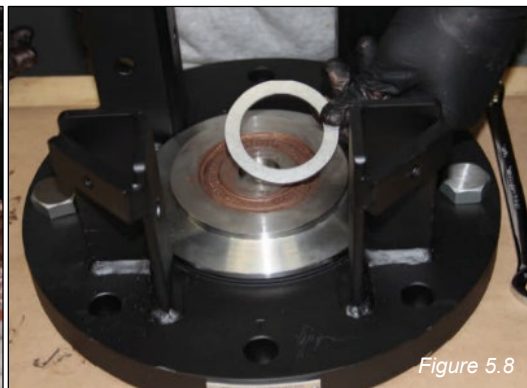

Figure 5.8
- d. Place the thick thrust washer on top of the needle bearing. It should rotate smoothly on top of the needle bearing (*Figure 5.8*).